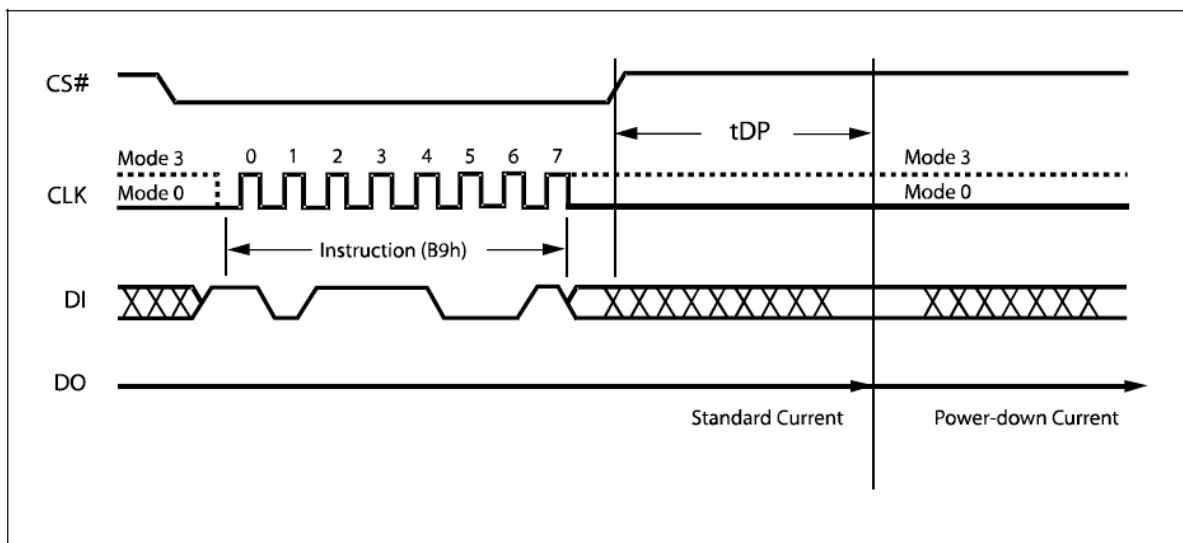

Figure 17. Deep Power-down Instruction Sequence Diagram
The instruction sequence is shown in Figure 17. Chip Select (CS#) must be driven High after the eighth bit of the instruction code has been latched in, otherwise the Deep Power-down (DP) instruction is not executed. As soon as Chip Select (CS#) is driven High, it requires a delay of t_{DP} before the supply current is reduced to I_{CC2} and the Deep Power-down mode is entered.